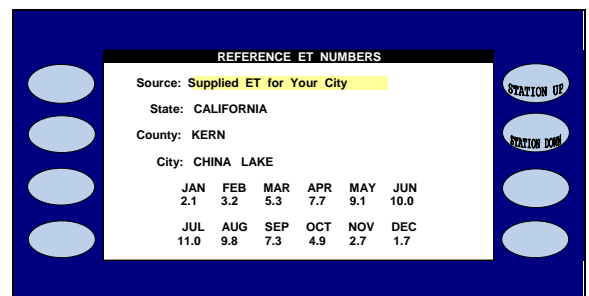

Figure 11
22.  Press the **ET COUNTY / CITY** Menu key to take you to the **ET COUNTY / CITY** screen (Figure 11).